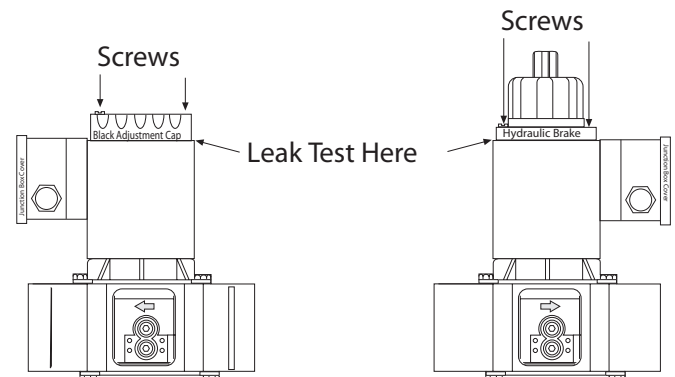

fig. 2
5. Remove blue paint from the countersunk screw on the hydraulic brake unit (MV-DLE series) or black adjustment knob (MV-D series). (fig. 2)
13. Install and secure screws to the hydraulic brake unit or black adjustment knob. Take care not to overtighten. (fig. 2)